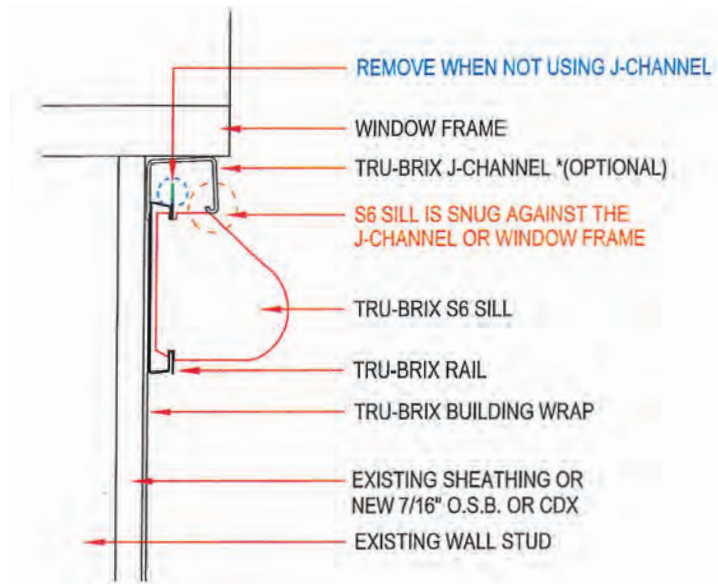

Figure 46A
- Third, place the rail and S6 sills directly below the bottom of the window frame. Slide the rail up until the top of each S6 sill is snug against the J-channel. See Figure 46A. If not using J-Channel, trim the top flange of the rail so the rail sits snugly against the bottom of the window frame. See Figure 46B. Using your screw gun, apply fasteners until the rail is securely fastened. If J-channel was not used, apply a bead of high-quality exterior sealant in the gap between the S6 sill and the window frame as shown in Figure 46B.